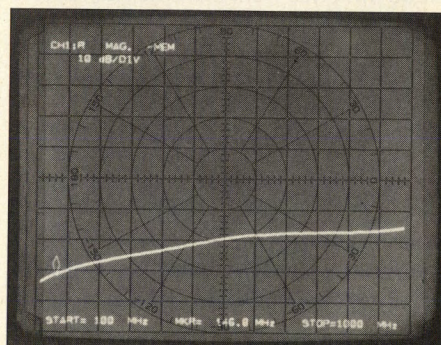
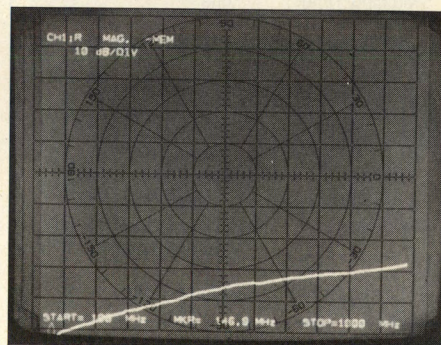
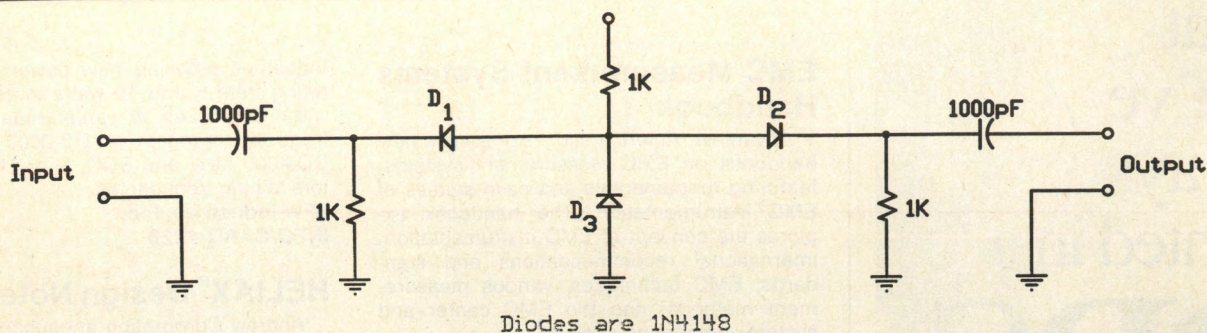

Figure 2. Isolation with no bias voltage applied.
Figure 3. Isolation with -12 VDC bias.
Figure 1. An inexpensive VHF/UHF RF switch.
Figure 1 shows the insertion loss from 100 to 1000 MHz to be approximately 1.5 dB. Figure 2 shows the isolation with no bias voltage applied. With a negative bias voltage at A, D1 and D2 are off and D3 will short the signal to ground. This achieves a very high isolation of 30 dB to over 50 dB, as can be seen in Figure 3. Figure 4 shows the circuit. With 12 volts of positive bias at A, the diodes D1 and D2 are forward-biased. The typical packaged series PIN diode would exhibit an isolation of 13 dB to 35 dB in this frequency range with approximately 0.5 dB loss (2).